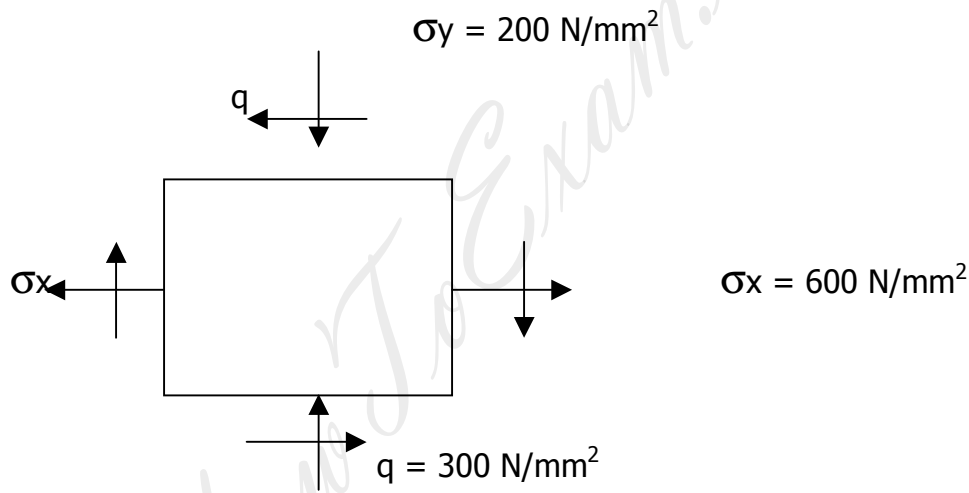

Figure 6.1
- Find the principle stresses and principle planes for a rectangular block subjected to stresses as shown in the figure 6.1 by Mohr's diagram. Also find the magnitude of maximum shear stresses. Also check the result by analytical method.